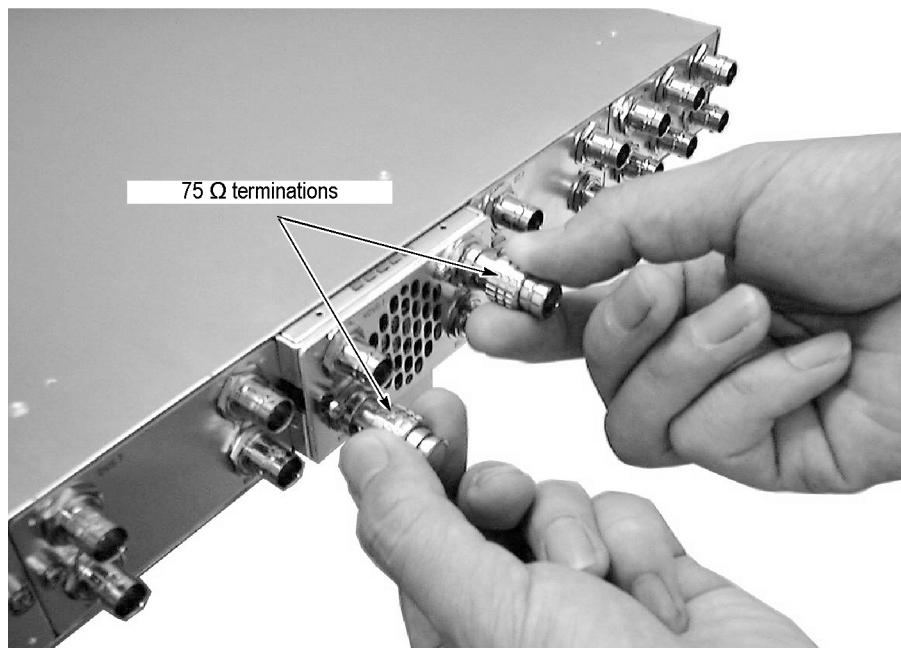

Figure 8: Removing the module (TG700 shown)
4. Pull the module slowly toward you while supporting the terminations or BNC cables attached to the connectors. (See Figure 8.)